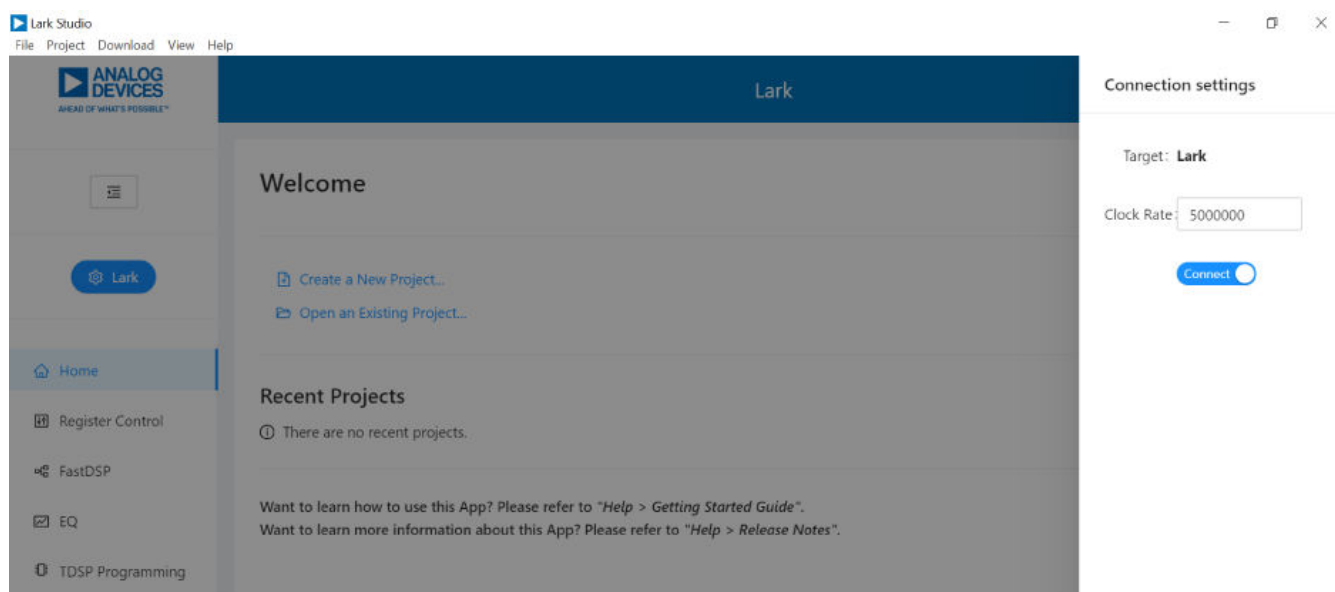

Figure 4. Connect with EVAL-ADAU1860EBZ
6. Click on **Target Connection** in the left navigation panel, and configure the **Connection settings** panel that opens on the right to set up the connection. If the USB connects, **Target Connected** displays (see Figure 4).